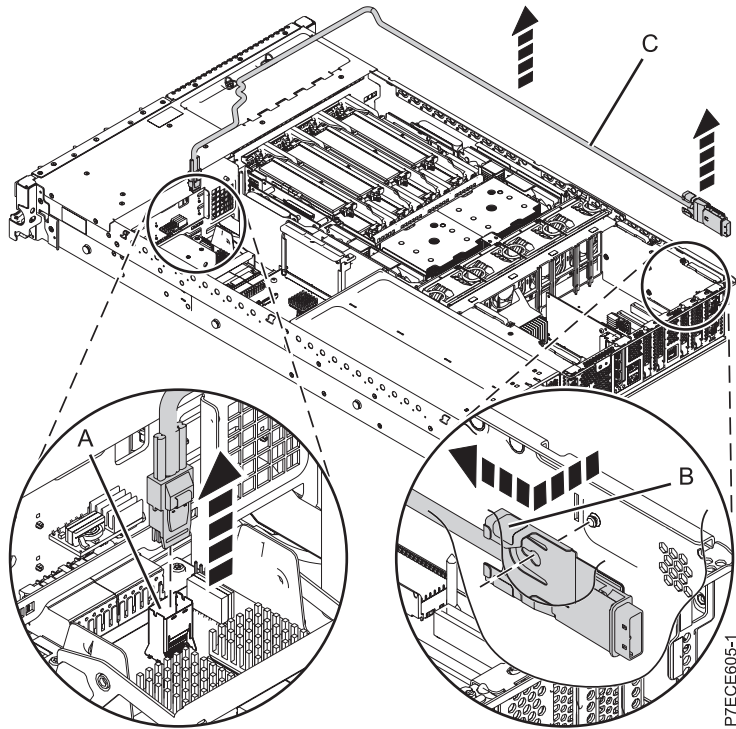

Figure 28. Removing the external SAS port
- 1) Press the side tab **(B)** and pull out the SAS shroud from the external SAS connection port on the disk drive backplane. See Figure 28 on page 43.